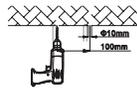

Figure 3
1. Mark with a mark pen or sharp tool on the mounting surface and drill (Figure 3).